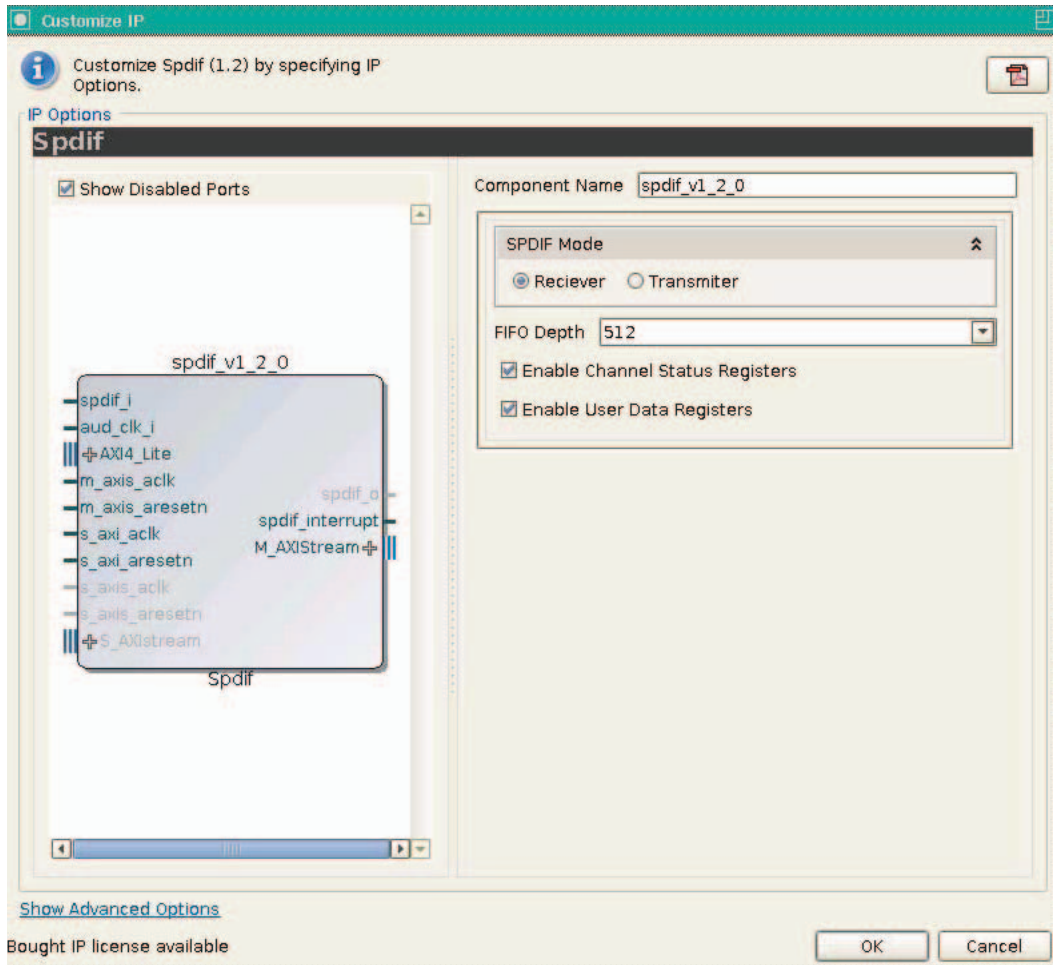

Figure 4-1: SPDIF Main Screen
6. Double-click the core to display the main SPDIF configuration screen (see Figure 4-1).